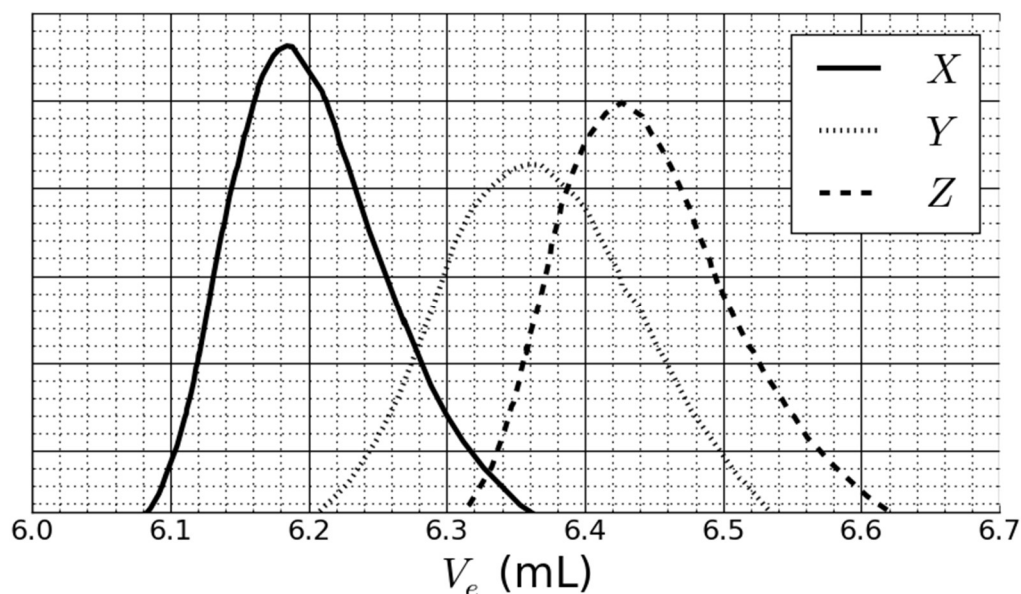

Fig. 2 – SEC chromatograms of **3a**, **3b** and **3c** as a function of the elution volume, V_e .
This reaction of **1** with **2** yielded the copolymers **3a** after 20 h, **3b** after 25 h, and **3c** after 30 h of reaction at 40 °C. Results of size-exclusion chromatography (SEC) experiments are given in Fig. 2.
6. **Match** the signals in Fig. 2 with the copolymers **3a**, **3b** and **3c**.
7. Based on the SEC curves in Fig. 2 and 3, **determine** elution volume, V_e , of the polymer that corresponds to curve X and use it to **estimate** the degree of polymerization m of its second block. **Show** your calculations; you may use a calculator or plot a graph.